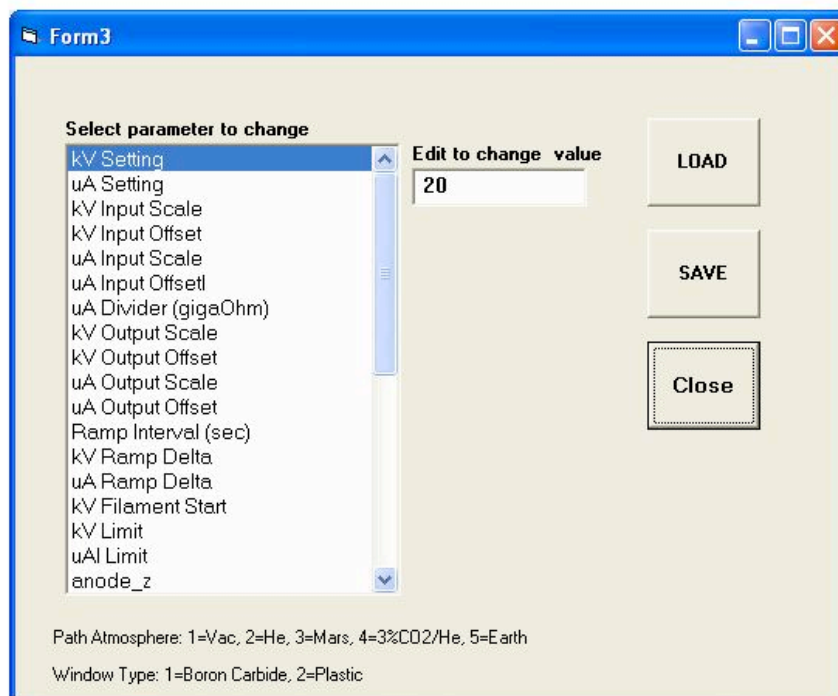

Figure 8. View of configuration setting “load parameters panel”
- “load params panel” (Figure 8): Opening this window allows the user to change instrument control parameters (such as the ramp interval) and acquisition conditions (such as the atmosphere type).